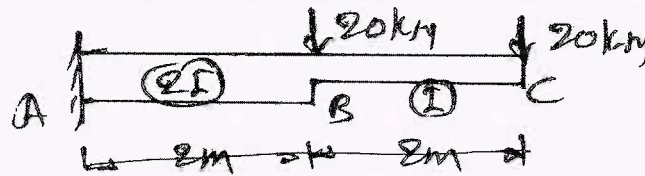

Fig Q5(b)
b. Compute the deflection and rotation (slope) at the free end C of cantilever beam by unit load method. Shown in Fig Q5(b). Take  $E = 200 \text{ GPa}$   $I = 8 \times 10^7 \text{ mm}^4$ .